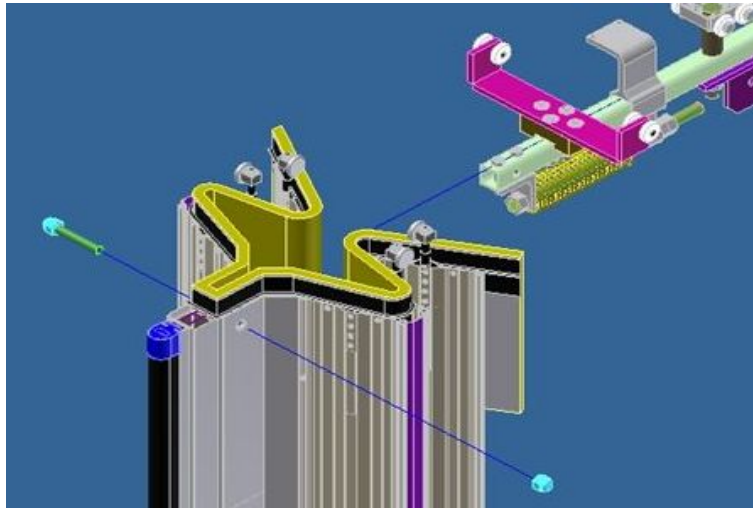

Figure 8.1. Attaching Lead Post to Chain Adjustment Trolley (Straight Track Configuration shown)
Locate the all-thread and (2) acorn nuts provided by Cookson. Position the lead post so that the vertical square tubing inside the lead post is butted up against the horizontal square tubing of the stabilizer bar trolley. Align the pre-drilled holes located near the mouth of the lead post with the pre-drilled holes in the square tubing of the stabilizer bar trolley. Fasten the lead post to the stabilizer bar trolley using the all-thread and acorn nuts. See **Figure 8.1**.